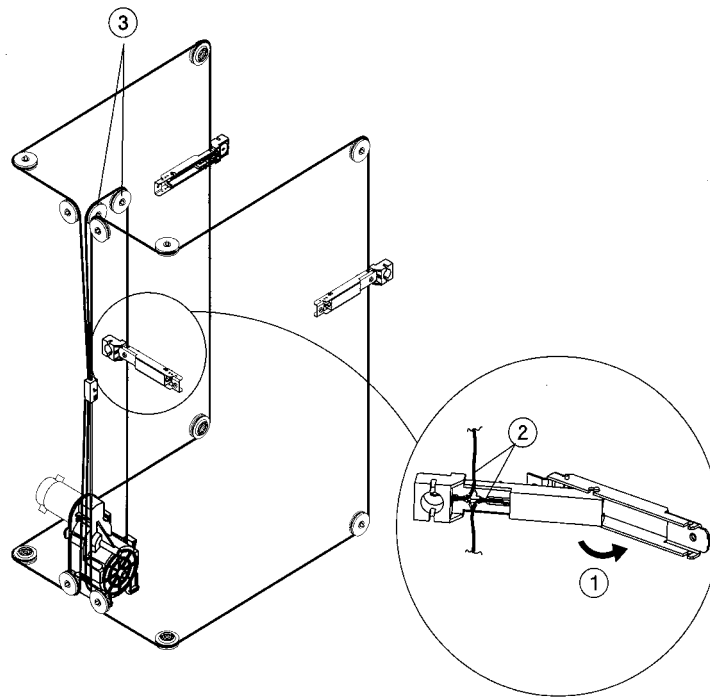

Figure 39: Opening the Tensioners to Relieve Cable Tension
4. Release the tension on the rear rope tensioner (drive rope) using the following steps (see Figure 39):
5. Take the drive rope off the upper pulleys (see #3 on Figure 39).
6. Remove the drive rope from the rear tensioner (see #2 on Figure 39).
7. Remove the T-15 screw from the rope coupler cover (see #1 on Figure 39).